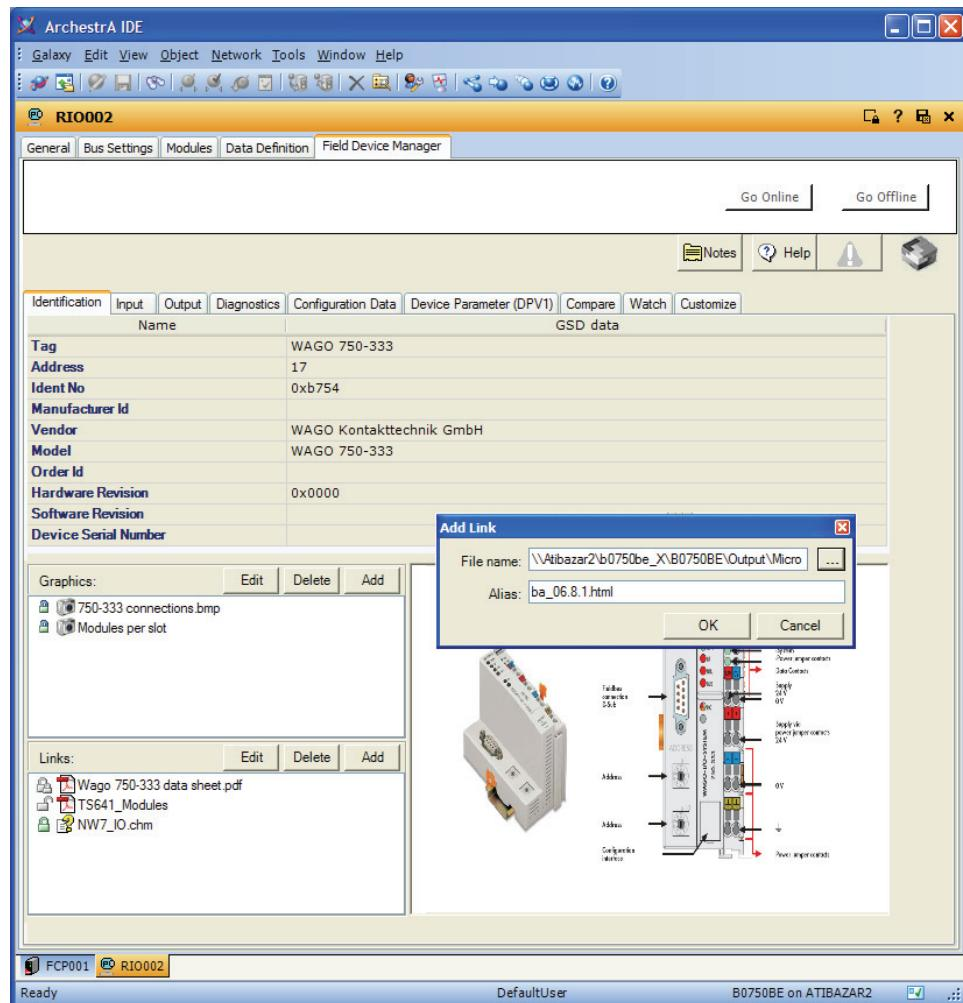

Figure 7. Hyperlinks to Documents and Drawings Can be Made on the Identification Tab
- ▶ Identification tab (Figure 7) displays information about the specific device such as the device manufacturer and type, and hardware and software versions. The tab also provides user-configured links for quick and easy access to any document or image useful in engineering or maintaining the field device. The documents/images can be linked to the Identification tab in